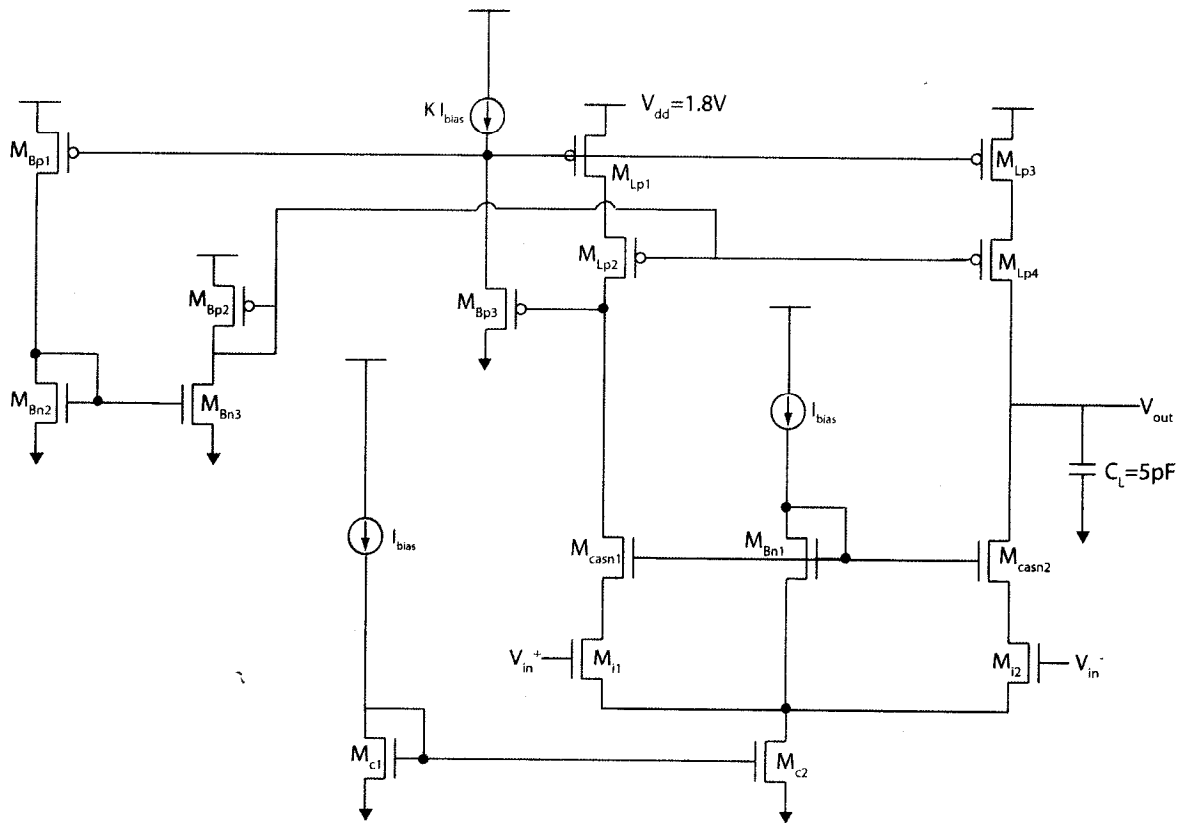

Figure 1: A telescopic cascode amplifier
- (a) (10 points) Calculate the small-gain, in terms of device parameters, of the differential amplifier shown in figure 1. Transistors M_{Bn1} , M_{Bn2} , M_{Bn3} , M_{Bp1} , M_{Bp2} and M_{Bp3} are there for biasing purposes and do not play a role in the gain calculation